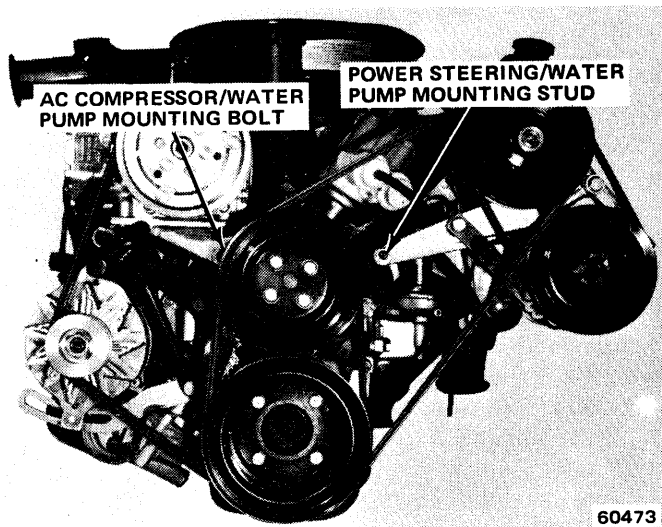

Fig. 2-15 Water Pump Mounting—V-8 Engine
(1) Disconnect battery negative cable.
(2) Drain radiator and disconnect upper radiator hose at radiator.
(3) Loosen all drive belts.
(4) If vehicle is equipped with radiator shroud, separate shroud from radiator.
(5) Install one radiator/shroud screw to retain radiator.
(6) Remove fan and lub from water pump. Remove fan and shroud, if equipped, from engine compartment.
(7) If vehicle is equipped with air conditioning, install a double nut on air conditioning compressor bracket to water pump stud and remove stud (fig. 2-15).
(8) Remove alternator and mount bracket assembly and place aside. Do not disconnect wires.
(9) If equipped with power steering, remove two nuts that attach power steering pump to rear half of pump mounting bracket.
(10) Remove two bolts that attach front half of bracket to rear half.
(11) Remove remaining upper bolt from inner air pump support brace, loosen lower bolt and drop brace away from power steering front bracket (fig. 2-15).
(12) Remove front half of power steering bracket from water pump mounting stud.
(13) Disconnect heater hose, bypass hose, and lower radiator hose at water pump.
(14) Remove water pump and gasket from timing case cover.
(15) Clean all gasket material from gasket surface of timing case cover.